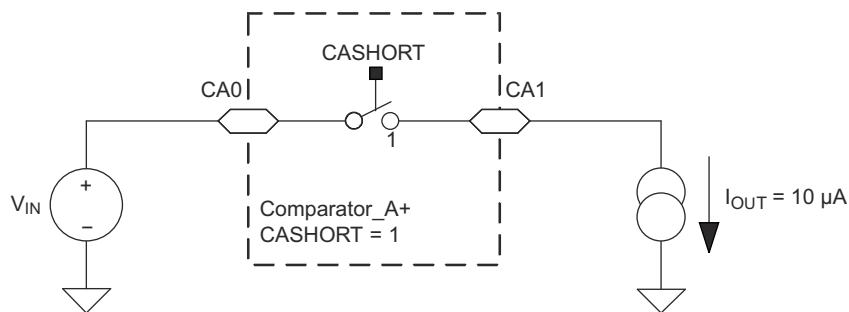
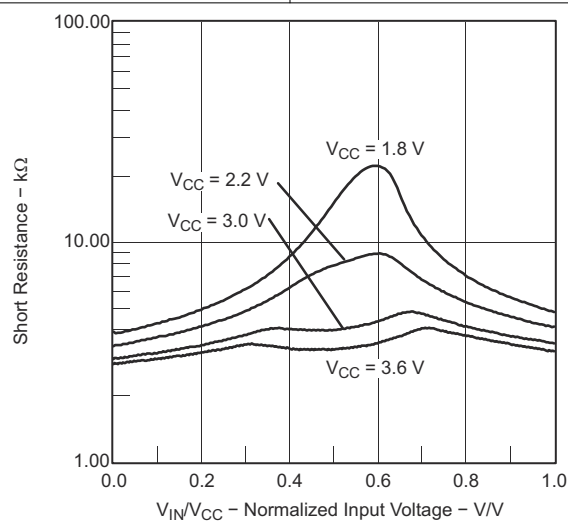

Figure 8-34. Comparator_A+ Short Resistance Test Condition
Figure 8-37. Short Resistance vs V_{IN}/V_{CC}
(1) The leakage current for the Comparator_A+ terminals is identical to I_{lkg(Px,y)} specification.
(2) Also see Figure 8-34 and Figure 8-37.
(3) The input offset voltage can be cancelled by using the CAEX bit to invert the Comparator_A+ inputs on successive measurements. The two successive measurements are then summed together.
(4) The response time is measured at P2.2/CAOUT/TA0/CA4 with an input voltage step and with Comparator_A+ already enabled (CAON = 1). If CAON is set at the same time, a settling time of up to 300 ns is added to the response time.